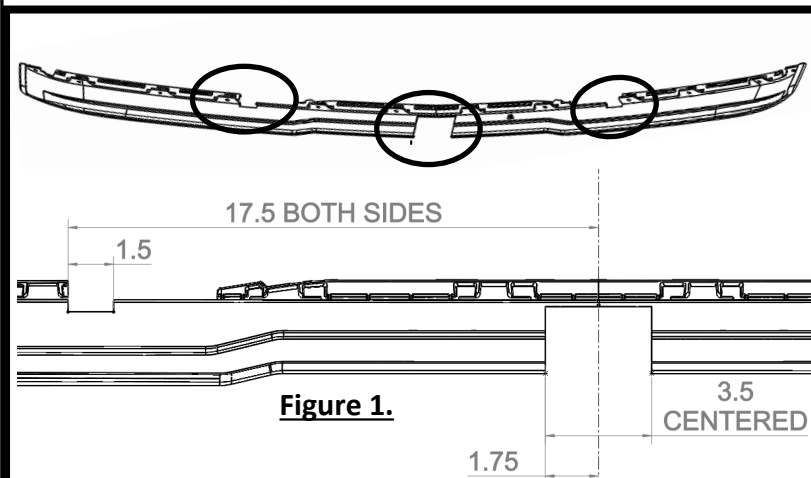

Figure 1.
- 1. Remove and trim lower air dam** – Using a 7mm socket remove several fasteners from the lower air dam and remove from vehicle. Locate center line of air dam or have customer mark center of air dam before removal. Using a tape measure, marker, and utility knife or grinder, cut out the center 3.5" of the air dam up to the reinforcing web. Make (2) 1.5" notches as shown in Figure 1 in the reinforcing webs. Then, reinstall the lower air dam using a 7mm socket. **See Figure 1.**
- 1. Remove and trim lower air dam** – Using a 7mm socket remove several fasteners from the lower air dam and remove from vehicle. Locate center line of vehicle. Using a tape measure, marker, and utility knife or grinder, cut out the center 3.5" of the air dam up to the reinforcing web. Make 2 1.5" notches as shown in the reinforcing webs. Then, reinstall the lower air dam using a 7mm socket. **See Figure 1.**